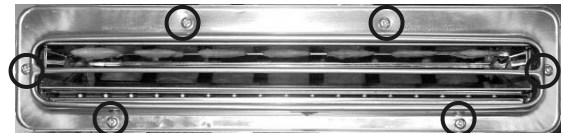

Figure 5
16. Remove the flue outlet (6 screws) and install it on the new heat exchanger. (Figure 5)